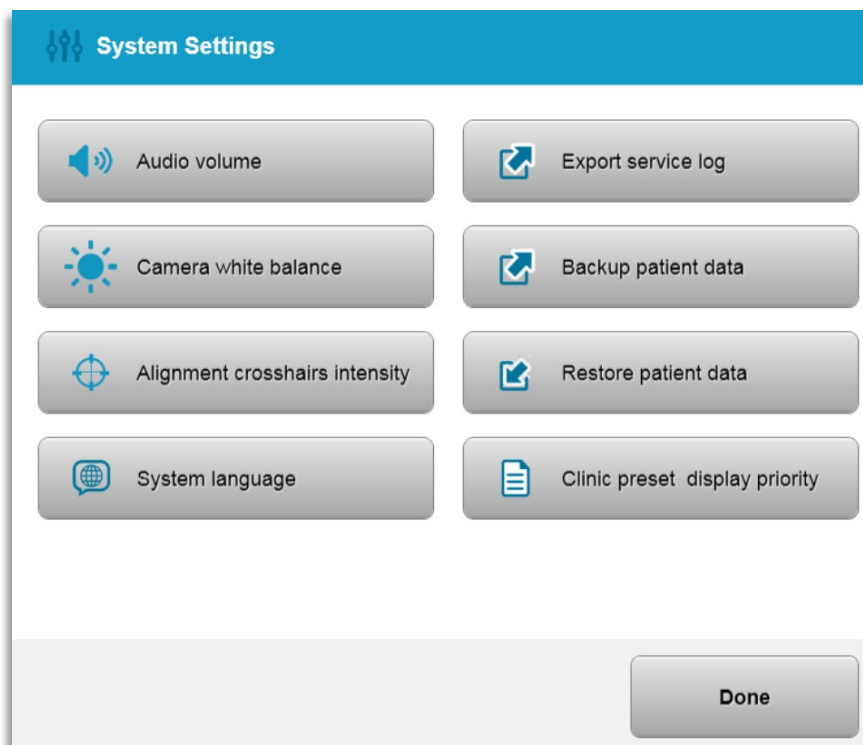

Figure 3-52. System Settings Menu
- o Select "System settings" from the Options menu to access the System settings shown in Figure 3-52.